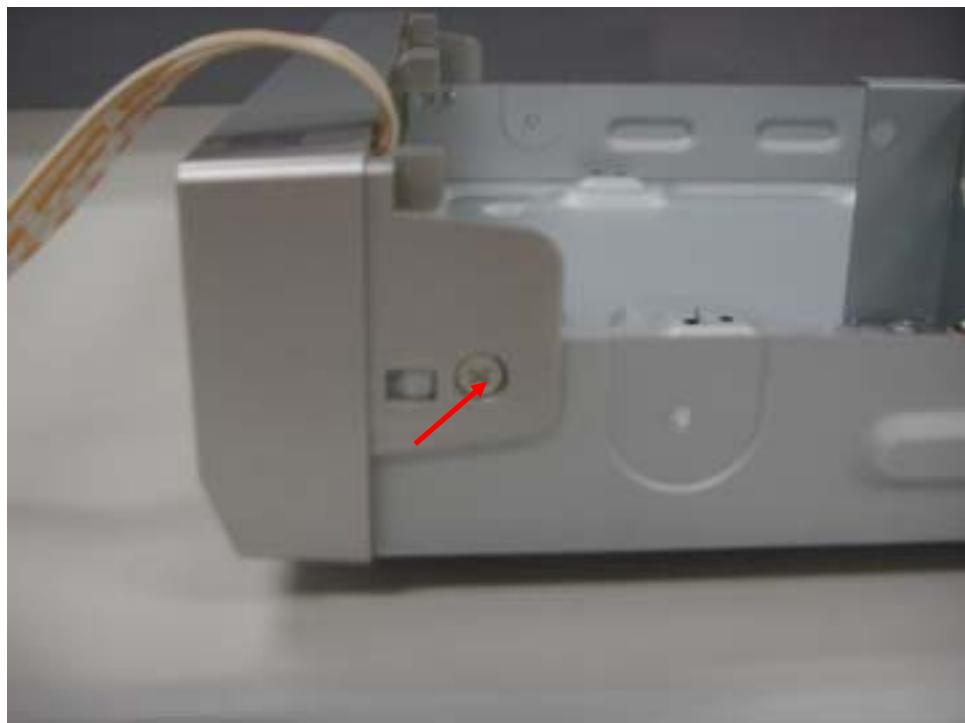

Figure 6
Step5: Dismantling Front Panel, disconnect 2 screws as below instruction, then remove the Front panel(Figure 6).